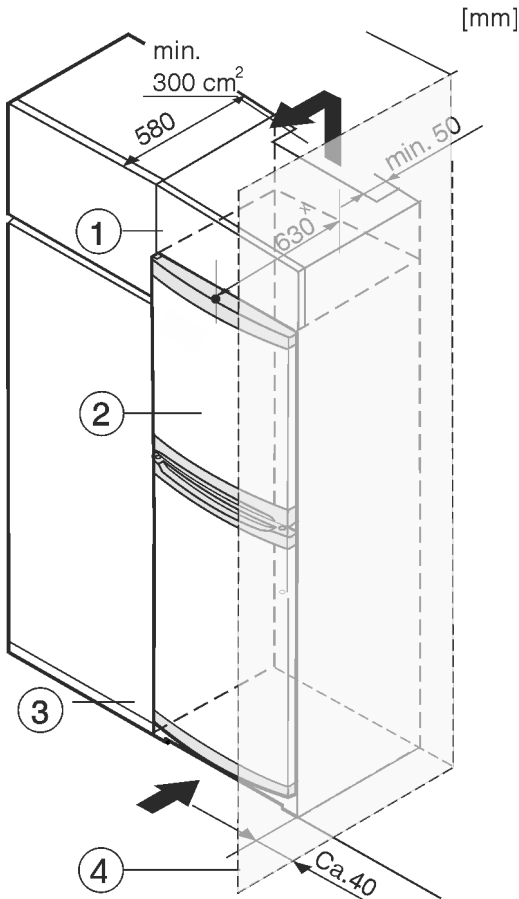

Fig. 8
- (1) Top cupboard (3) Kitchen cabinet
(2) Appliance (4) Wall
The appliance can be built into kitchen units. A top cupboard Fig. 8 (2) can be added above the appliance in order to bring the appliance Fig. 8 (1) up to the height of the fitted kitchen units.
When fitting kitchen cupboards around the appliance (max. depth 580 mm), you can install the appliance directly next to the kitchen cupboard Fig. 8 (3). The appliance protrudes 34 mm * to the side and 50 mm * in the centre of the appliance in relation to the kitchen cupboard front.
If the appliance is set up with the hinges next to a wall Fig. 8 (4), the distance between the appliance and the wall must be at least 40 mm. This is how far the handle protrudes when the door is open.